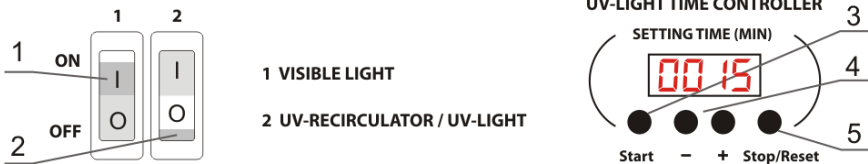
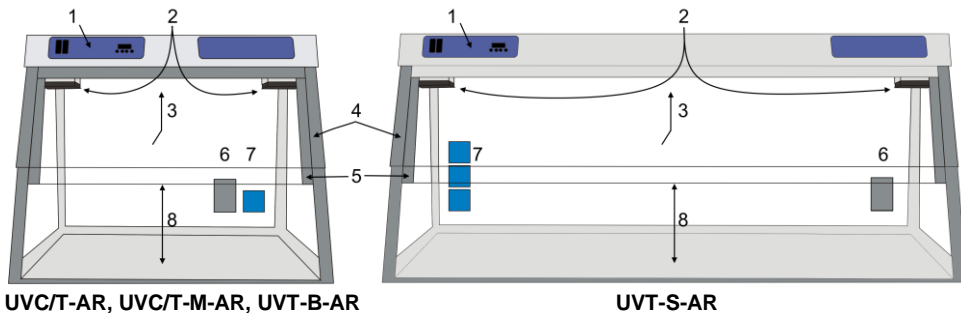

Figure 2. Control panel
Figure 3. DNA/RNA UV box, frontal view:
5.2.1 Turn ON the switch **2** (fig. 2/2) on the control panel (fig. 3/1). This switches on the UV recirculator inside the unit (fig. 3/2) and the open UV-lamp exposition timer. The UV recirculator will operate all the time until the switch **2** is turned OFF.
5.2.2 Use the timer **+** and **-** keys (fig. 2/4) to increase and decrease the time (SETTING TIME) of direct UV light exposition of the working place, with 1 min increment. Pressing down and holding the button for more than 2 seconds increases the increment. Recommended time of exposition is two sessions of 30 minutes, once after switching on the cabinet, once before operations inside.
5.2.3 Press the **Start** key (fig. 2/3), the UV lamp will be turned on automatically and the timer will start counting the exposition time. Timer indicator shows actual time: until 1 hour - in minutes and seconds (mm:ss), after 1 hour - in hours and minutes (hh:mm). After reaching the set time the timer will automatically turn off the open UV lamp.
5.2.4 The open UV lamp can be switched off by pressing the **Stop/Reset** key (fig. 2/5). The set time of exposition will be saved in the memory. The set time will not be saved after the complete turning off the unit.
5.3.1 Turn ON switch **1** (fig. 2/1) for lighting of the working place. This turns ON the luminescent (visible light) lamp inside the cabinet (fig. 3/3).
5.3.2 Lift the front protective screen (fig. 3/5) up for work in the cabinet. Models have different maximum opening heights (fig. 3/8), as listed in the **Specifications** section, and may be raised to the following positions:
Note. Do not block the recirculator openings (fig. 3/2)!
5.3.3 To use electric devices inside the cabinet, pull their power cable through the inlet and close the flap (fig. 3/6) or connect the power cable to a built-in mains socket (fig. 3/7, models with mains socket).
8.4 **Dust filter replacement.** The dust filters (fig. 3/2) on either end of the UV recirculator with the hidden UV lamp should be checked monthly and cleaned or replaced when they become clogged. To check, replace or clean the filters, simply unclip the covers, fit a new filter if necessary or rinse current filters in water, dry and place back. Clip covers back in place.